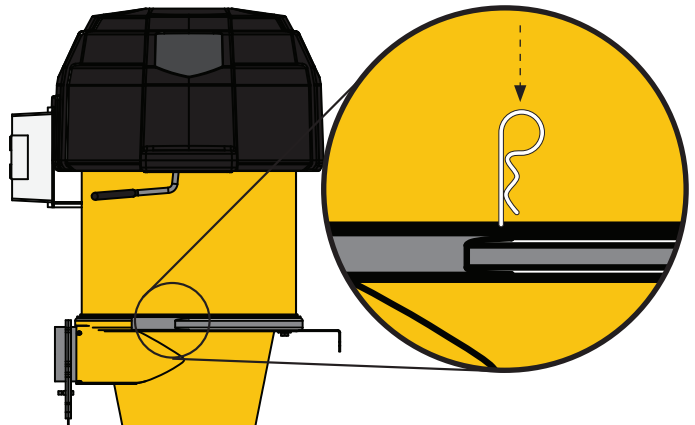

FIG. 14
Secure the Ring Clamp (D) using the Clamp's cotter pin [FIG. 14].